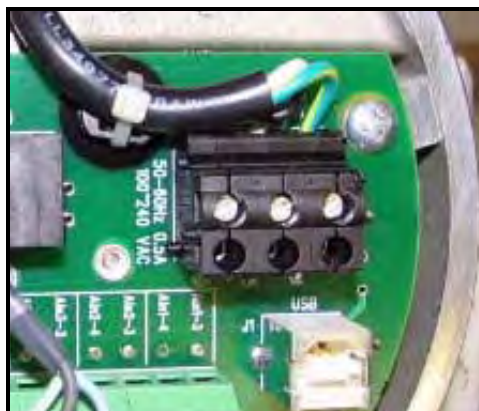

Figure 26: Power Terminal Block
- Run the AC power connections to the Power Terminal Block shown in Figure 26. It is recommended to use 12-18 AWG (3.3 - 0.82 mm2) power wiring.